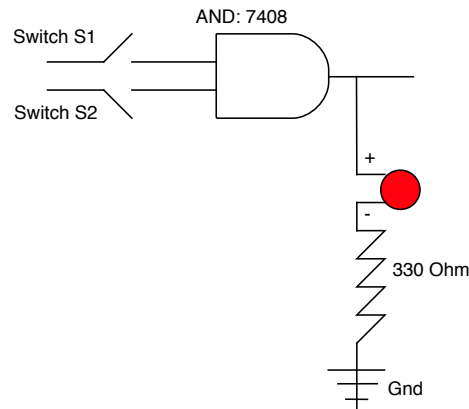

Figure 4: Circuit 4: And Gate
8. Next put the 7408 chip onto the breadboard. This chip provides 4 independent AND gates, each with two inputs and one output. See Figure 4. First wire VCC and GND to the chip, using the spec sheet to guide you. Then wire the output pin for one of the AND gates to the +LED. Wire the first input pin of the AND gate to the first switch, S1, at the bottom-left of the breadboard, and the second input pin of the AND gate to the second switch, S2. By hand, toggle through all four combinations of HIGH and